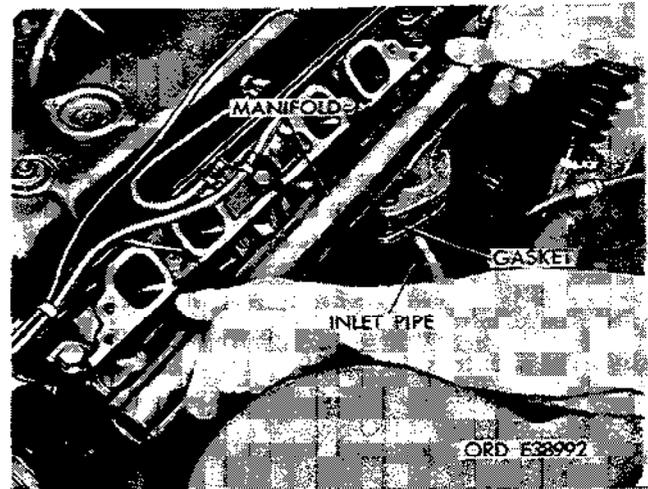

Figure 2-76. Remove exhaust manifold.
(5) List off exhaust manifold and discard inlet pipe gasket (see fig. 2-76).
b. Installation. Perform operations (5) back through (1) and refer to figs. 2-76 and 2-75 for instructions to install exhaust manifold.